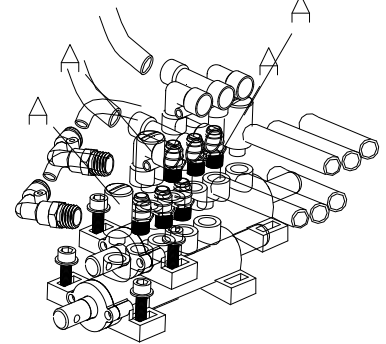

Fig 25
2. Loosen the valve mufflers (A) which belong to Jaws open and close Pedal and Bead Breaker Pedal; **(Fig 25)**
3. Clean the mufflers with compressed air, please replace it referring to the spare parts list if it is damaged. **(Fig 25)**